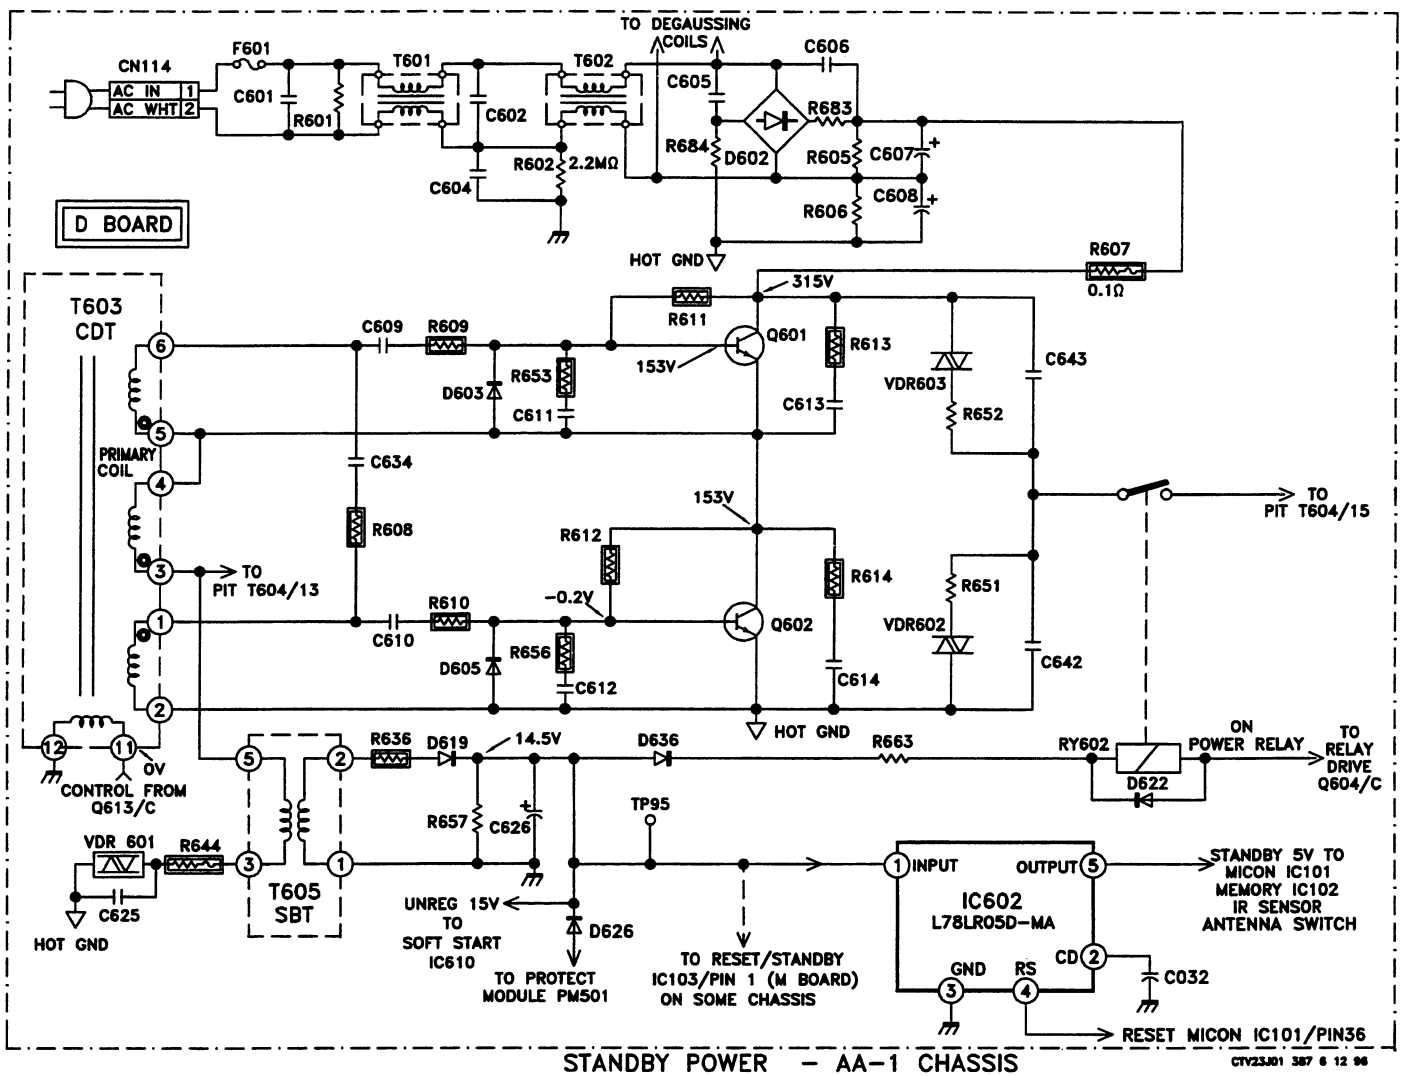

Figure 1
saturation, the bottom transistor had better be off and vice versa. This is accomplished by out-of-phase feedback windings to the bases of the transistors along with the RC time constant of the coupling capacitors and resistors to the transistor bases. Figure 1 illustrates this point. Pins 1, 2, 5 and 6 of T603, along with R609, R610, C609 and C610, make up the feedback path. Any leakage of the coupling capacitors will affect the delicate "on time" of the corresponding transistor. As we can see, feedback is very important here.
When first applying AC power to this set, do not exceed 30VAC. The oscillator will begin running at about 5 to 10VAC. This allows us to check proper biasing of the oscillator immediately upon application of AC power, along with any potential loading problems in the circuits fed by the standby lines. You should have a difficult time reading any current levels when only the standby circuits are operating. Once the oscillator has passed the initial test, we can “force” the secondary stage on to check for potentially damaging loads. Looking back at Figure 1 gives us a more detailed view of the switching oscillator. Notice how the oscillator is fed by constant B+ from the bridge rectifier D602. The circuit oscillates upon AC plug-in and drives a standby transformer T605. Notice RY602. It connects the already running oscillator to the PIT (Power Input Transformer) T604. As mentioned earlier, it doesn't engage until the unit is turned on by remote or pressing the front panel power button. If the unit happened to be in the power-on-state when a failure occurred, the relay will automatically engage at about 60VAC.
**Step 1.** Check the switching oscillator. Remove all connectors from the secondary voltage lines. Do a static resistance check on all of the secondary lines on the power supply board while these connectors are off. This will help to locate any shorted or leaky filters and diodes in the secondary lines. If these check OK, short the power relay, connect a scope to junction of Q601E and Q602C and slowly apply AC power to the unloaded power supply while monitoring current and the waveform on the scope. Other than an initial current spike caused by charging filters, you should draw virtually no current while the oscillator is running. Monitoring of the oscillator waveform is primarily to verify start of oscillation although we will be on the lookout for fluctuations. Any fluctuations in the waveform, however, will almost certainly cause high current readings at low AC levels. If AC current rises with voltage, you have a problem. Look for leaky or shorted components (diodes and capacitors) in the oscillator section. Pay close attention to feedback capacitors (C610 and C612 in the Figure 1). If all checks well, proceed to step 2.